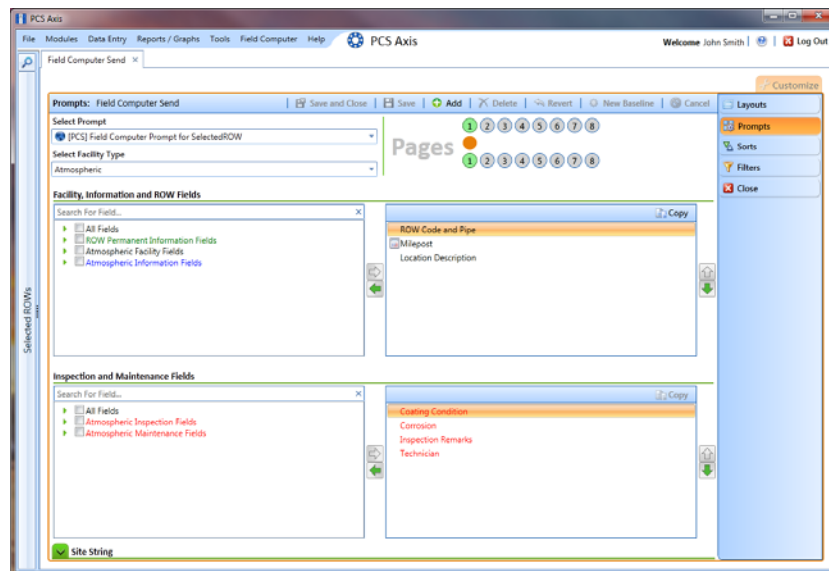

Figure 7-32. Prompts
- Click the **Customize** tab , then the **Prompts** button  to open the *Prompts* page (Figure 7-32).